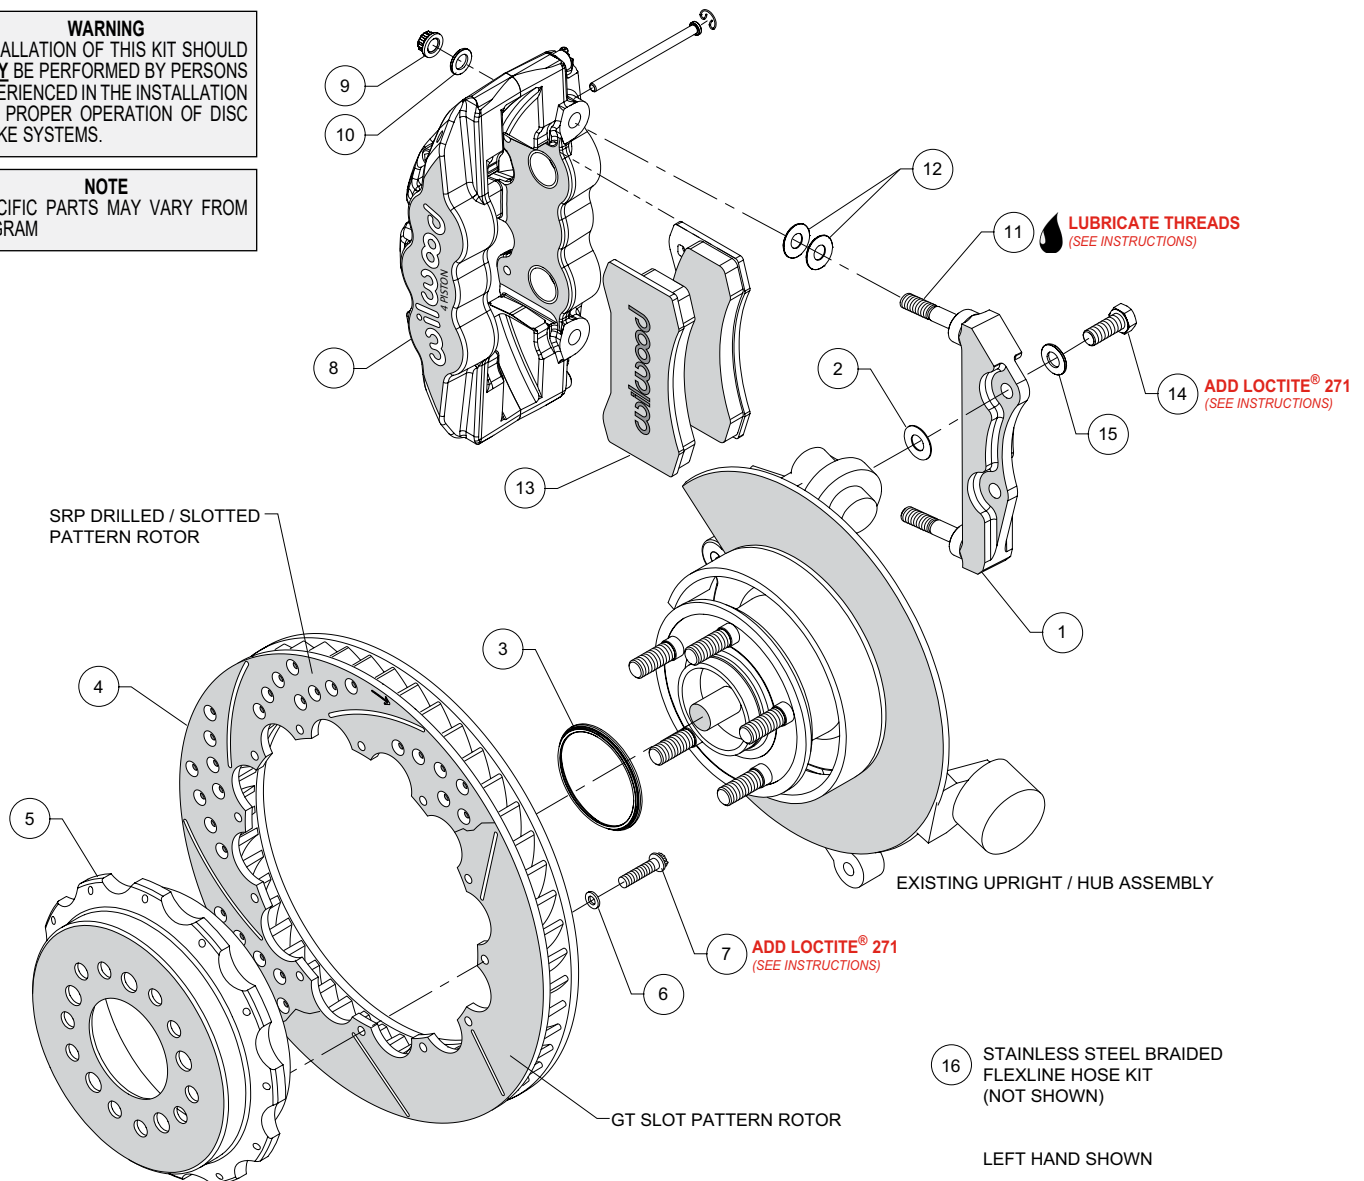
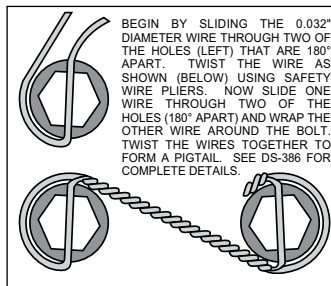

Figure 1. Typical Installation Configuration
Figure 3. Safety Wire Diagram
**Assembly Instructions** (numbers in parenthesis refer to the parts list and Figure 1 on the preceding pages):
- The caliper mount bracket (1) should initially be installed with clean, dry threads on the mounting bolts. Orient the bracket as shown in Figure 1 and Photo 1, and install using bolts (14) and washers (15), Figure 1. Initially place one .033" thick shim (2) on each bolt between the bracket and upright, Figure 1. Temporarily tighten the mounting bolts. **NOTE: The bracket must fit squarely against the mount bosses on the upright.** Inspect for interference from casting irregularities, machining ridges, burrs, etc. Later, after the caliper alignment has been checked, the mount bolts will be secured using red *Loctite*® 271.
- Orient the rotor (4) and the hat (5) as shown in Figure 1 and Photo 2. Attach rotor to hat using bolts (7) and washers (6). Apply red *Loctite*® 271 to the bolt threads and torque to 155 in-lb using a criss-cross pattern. For an added measure of security, the bolts may be safety wired using standard 0.032 inch diameter stainless steel safety wire as shown in Figure 3. Please refer to Wilwood's data sheet DS-386 (available at [www.wilwood.com/pdf/DataSheets/ds386.pdf](http://www.wilwood.com/pdf/DataSheets/ds386.pdf)) for complete safety wire installation instructions.
- Slide the rotor registration adapter (3) onto the axle register on the axle hub with the smaller O.D. facing outward, Photo 3. Slide the hat/rotor assembly onto the axle hub. **NOTE: The hat must fit flush against the axle hub flange or excessive rotor run out may result.** Install three lug nuts (finger tight) to keep the hat/rotor assembly in place while continuing with the installation.
- Lubricate the caliper mounting studs (11) with lightweight oil. Initially place two .030" thick shims (12) on each stud between the caliper and the bracket, as shown in Figure 1 and Photo 4. Mount the caliper (8) onto the bracket (1) using lock nuts (9) and washers (10), Figure 1. Temporarily tighten the lock nuts and view the rotor through the top opening of the caliper. The rotor should be centered in the caliper, Photo 5. If not, adjust by adding or subtracting shims (2) between the bracket and the upright. Always use the same amount of shims on each of the two mounting bolts. Once the caliper alignment is correct, remove the bracket mounting bolts one at a time, apply red *Loctite*® 271 to the threads, and torque to 60 ft-lb.
- Remove the two pad retaining pins from the caliper (8) by carefully popping out the pin retaining clips and sliding out the pins. Insert the brake pads (13) into the caliper from the bottom, Figure 1 and Photo 6. With the friction material facing the rotor, secure the brake pads in place with the pad retaining pins and clips, Photo 7. Reinstall the caliper onto the caliper mounting bracket and temporarily tighten the lock nuts. Check that the top of the brake pad is flush with the outside diameter of the rotor, Photo 8. If not, adjust by adding or subtracting shims (12) between the caliper and the bracket. After the caliper pad height is set, torque the caliper lock nuts (12) to 47 ft-lb.